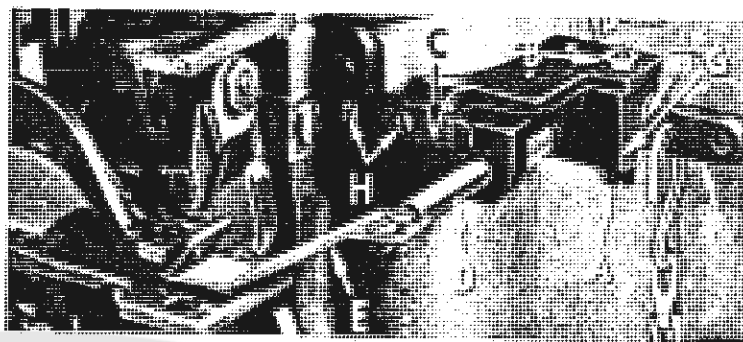
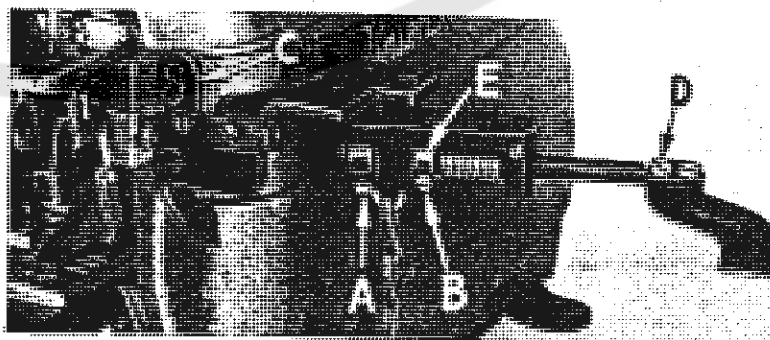

Fig. 18
Fig. 19
Styles 39500 FT, FU, GD, GL and GT are equipped with an auxiliary pressure plate assembly (Fig. 18) which operates in conjunction with the presser foot.
1. With assembly in operating position, check to be sure latch spring (C, Fig. 18) is in notch of shaft bracket (G) when shaft bracket is up against the front of bracket (C, Fig. 19). If adjustment is necessary loosen screws (H, Fig. 18) and position latch spring.
2. Swing assembly out of operating position and see that it hinges freely on its pivot. Adjustment is made for screw (A, Fig. 18) and nut (B).
3. Adjust the shaft (D) laterally so that the pressure plate (E) locates centrally over the differential feed dog. Loosen screws (A and B, Fig. 19) to do this. Making this adjustment will release the spring tension on the pressure plate. To re-gain the tension, swing the pressure plate out and turn the shaft (D, Fig. 18) in either direction about 180° from operating position and tighten screw (B, Fig. 19).
4. With the differential feed dog down below the surface of the throat plate, and the pressure plate resting on the throat plate with the maximum pressure the spring will allow, there should be about 1/32 inch clearance between the operating lever (F, Fig. 18) and the hinge block (G). To make this adjustment loosen screw (A, Fig. 19) and move lever to desired position.
5. With the differential feed dog at its highest point of travel, raise or lower the mounting bracket (C, Fig. 19) so that the auxiliary pressure plate is parallel with feed dog teeth.
6. Adjust the pressure plate in or out towards presser foot, maintaining it parallel with the feed dog, so that there is sufficient clearance between the end of plate and presser foot to permit free passage of the thickest part of the top ply being sewn. Use screws (D, Fig. 19) for this adjustment.
7. There are two spring anchoring holes in collar (E, Fig. 19) which may be used for increasing or decreasing spring tension on auxiliary pressure plate.
8. A chain is provided for raising the auxiliary pressure plate in conjunction with the presser foot. Couple this chain from the operating lever (F, Fig. 18) to the knee press rod that is part of the knee press assembly used to lift the presser foot. The presser foot should be raised before the pressure plate and the chain is normally attached to the pressure plate operating lever at the side hole.